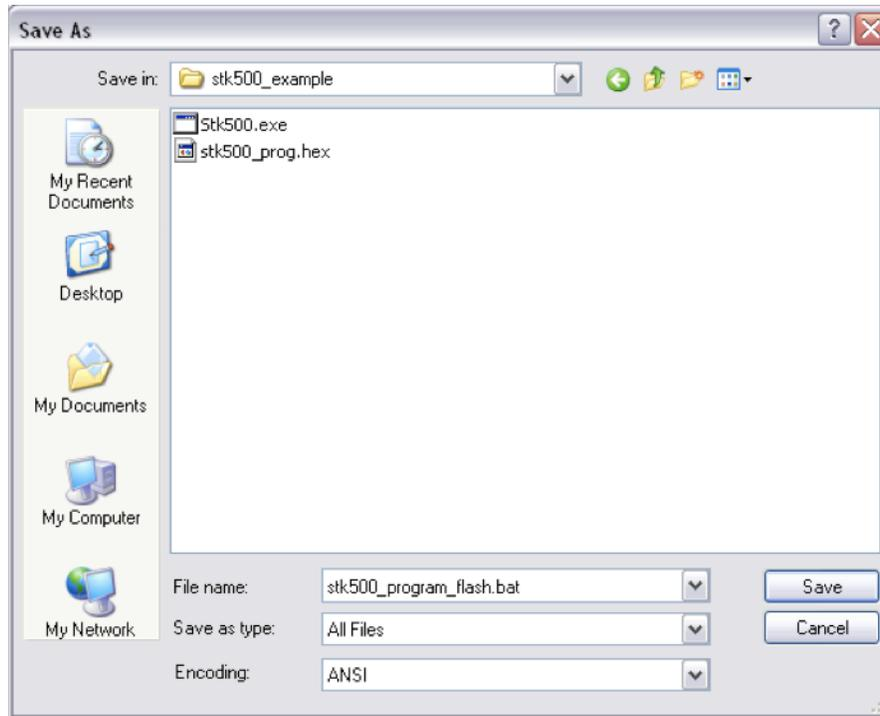

Figure 4.43 Screenshot of an instance of the Save As window.
- 4.4.3.7** Change the “Save as type” field to “All Files” as shown in Figure 4.43 to allow the current text file to be saved with an extension (such as BAT) other than TXT.
- 4.4.3.8** Give the batch file a name ending with “.bat” as shown in Figure 4.43 and click “Save”. This will create a new batch file with the given name in the directory selected in step 4.4.3.6.